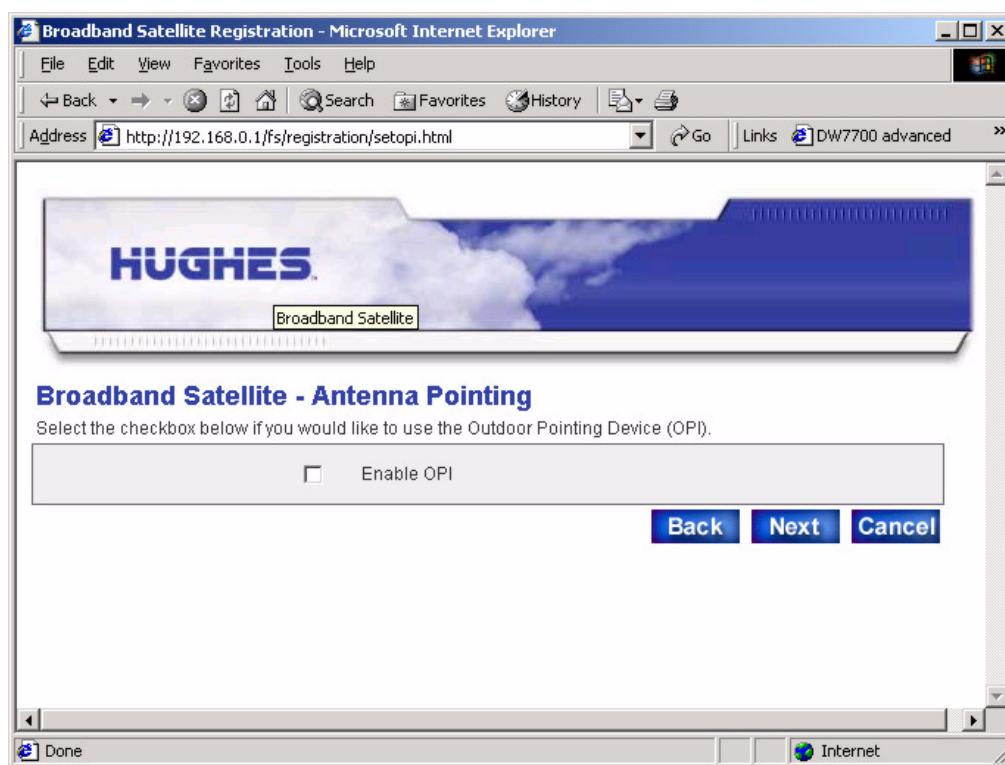

Figure 16: Antenna pointing screen
- At the setup screen, click Antenna Pointing. The Antenna Pointing screen appears as shown in Figure 16. If an OPI is used to point the antenna, select the Enable OPI check box.